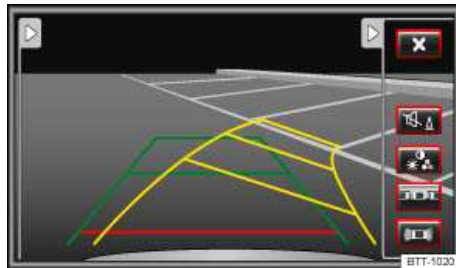
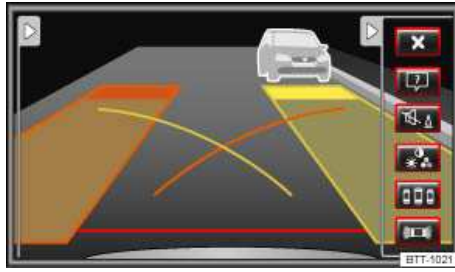

Fig. 285 In the display perpendicular parking (Mode 1).
Fig. 286 In the display Parallel parking (Mode 2).
Key to ⇒ fig. 285 and ⇒ fig. 286
Switch on the display automatically:	Shift into Reverse (R) Mode 1 is displayed in the factory-installed radio or navigation system ⇒ fig. 285 . Additionally, the mini-OPS will be displayed on the left edge of the factory-installed radio or navigation system screen.